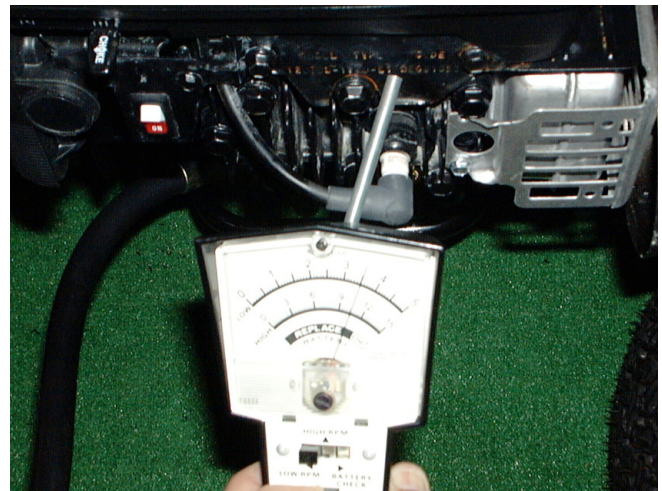

Figure 8
12. Start the engine and verify that the engine is operating between 3500 and 3600 RPM using a tachometer.____ See Figure 8.